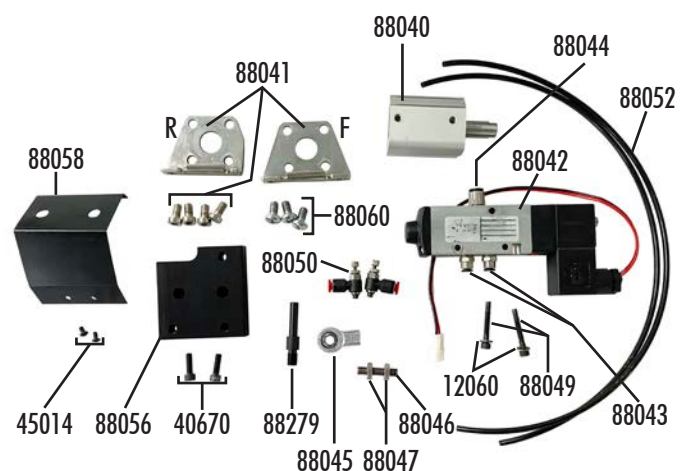

FIGURE 1—Parts list for the LCC pneumatic cylinder (P/N 8815). Includes a 6' length of the 5/32" (4 mm) air line. See page 12 for a detailed list.
1. Lay out all of the parts to make sure that you have all of them (see Figure 1).